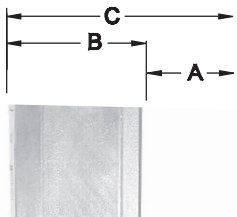

FIGURE 6
9. **New "Flush Style" Architectural Grille** – (See Figure 6) This new grille is an attractive extruded aluminum architectural grille that attaches to the outside face of the wall sleeve. The blades of this unique grille recess into the wall sleeve for a neat, "flush" appearance. Grilles install from the inside of the wall sleeve. Do not install the **SPXC** unit into the sleeve before installing the grille.